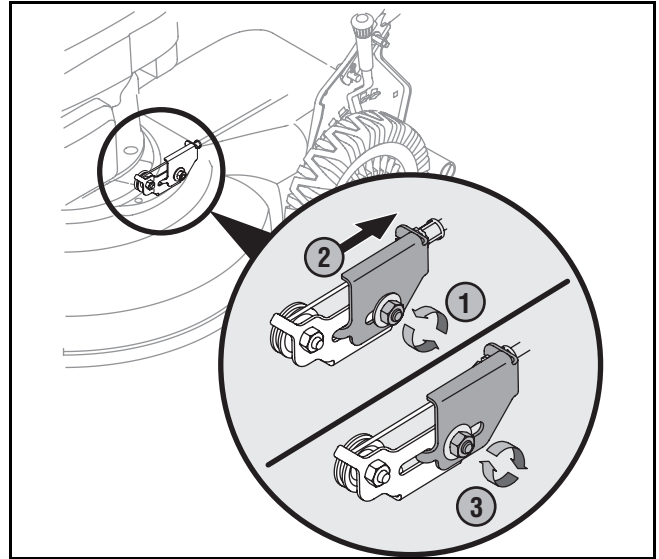

Figure 13
The adjustable cable bracket is located on the left side of the mower beside the engine. See Figure 13 .
- Loosen hex nut which secures the adjustable cable bracket. See Figure 13.